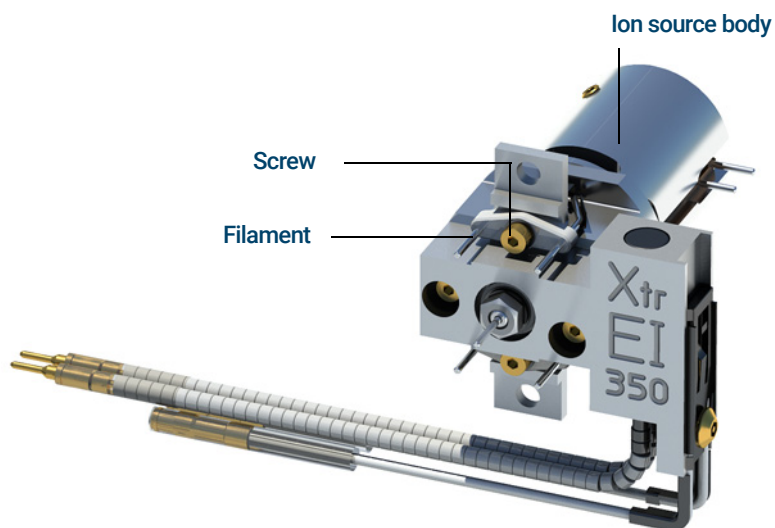

Figure 62. Changing the EI XTR filament
- 4 Remove the screws holding the filaments to the ion source body. (See **Figure 62** on page 190.)
- 5 Slide the filaments off the ion source assembly. (See **Figure 62** on page 190.)
- 2 Place the new filament into its position on the ion source body. (See **Figure 62** on page 190.)